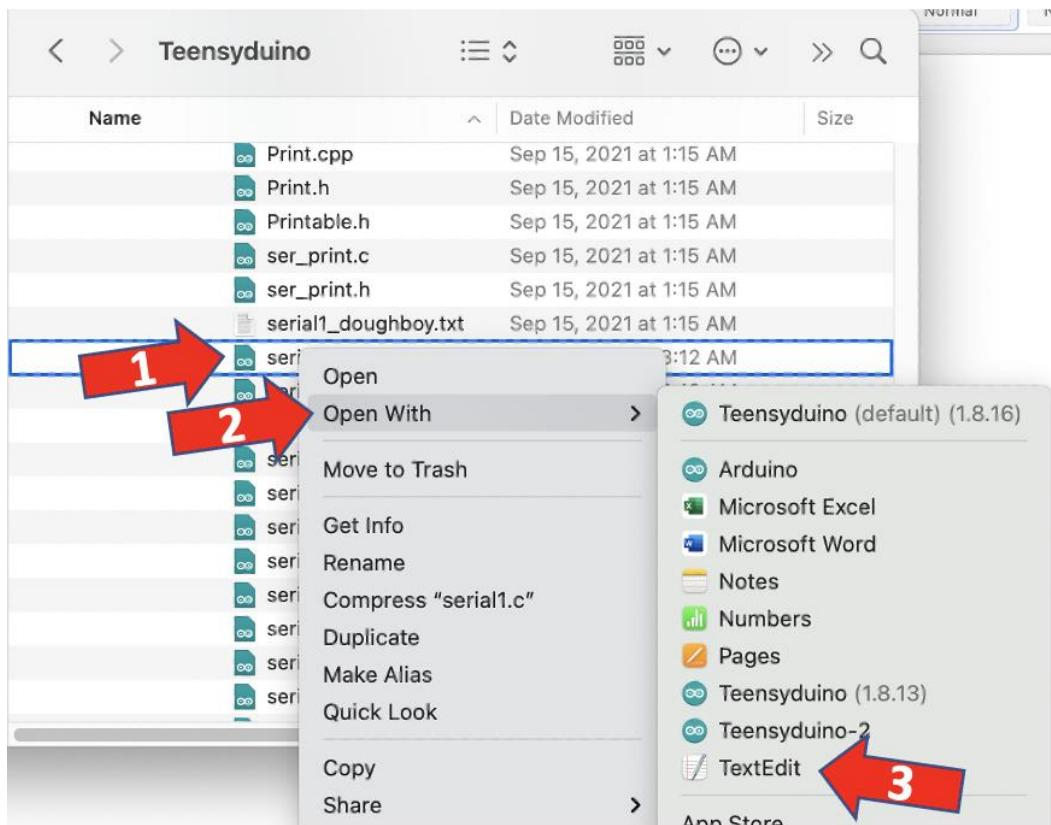

Figure 69. Accessing the serialX.c text file.
11. Right click on serial1.c (Figure 69)